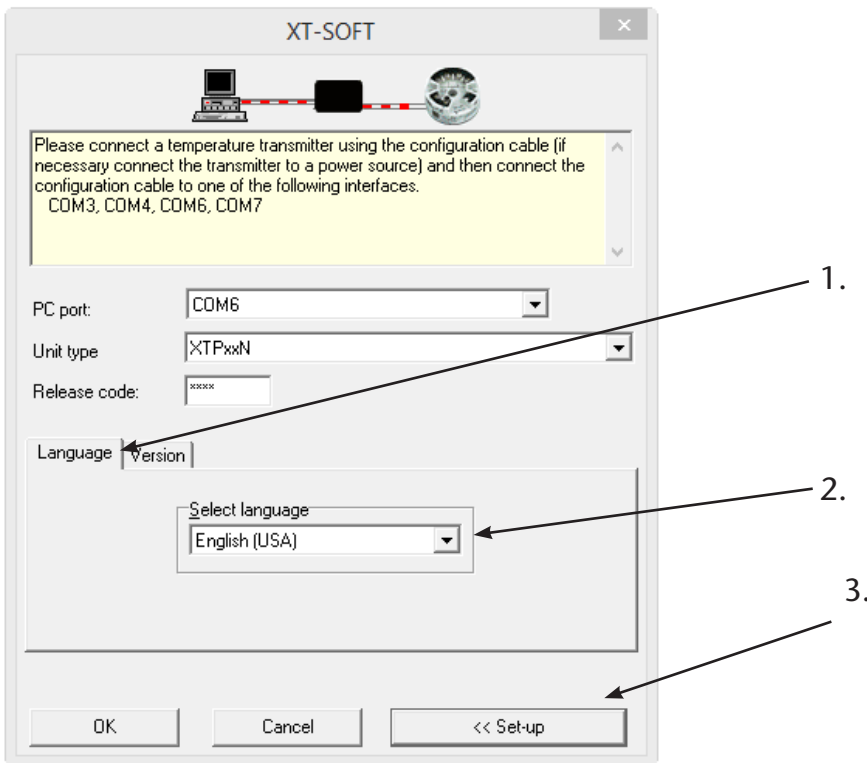

Figure 2
The Set-up button (3) Fig. 2 expands the main window to show additional set-up possibilities.
Under the Language tab (1) in Fig. 2 use the Select Language (2) pull-down box to select the desired language.